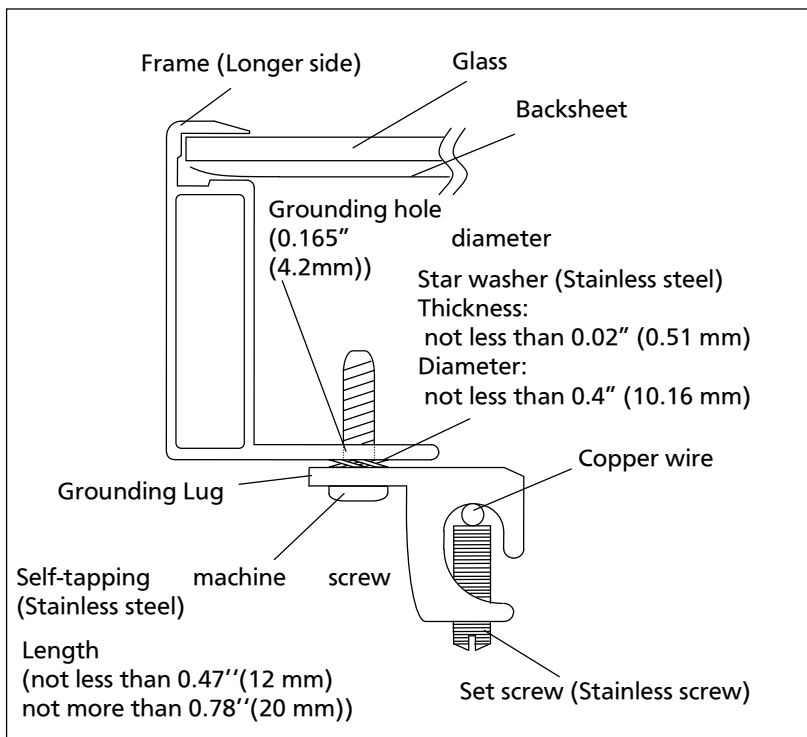

Figure 3.4
- As shown in figure 3.4, attach grounding lug to module frame using a stainless steel self-tapping machine screw.